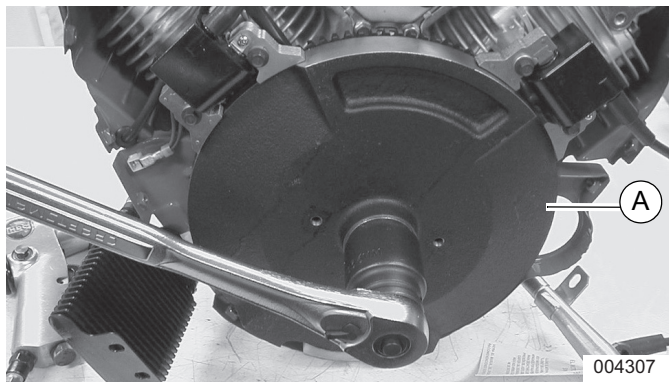

Figure 13-12. Tighten Flywheel Nut
- 2. See Figure 13-12. Assemble flywheel (A) on crankshaft.
- 2. See Figure 13-12. Place a 0.008–0.012 in (0.20–0.30 mm) thick, non-magnetic gauge (A) between magnet and coil laminations.